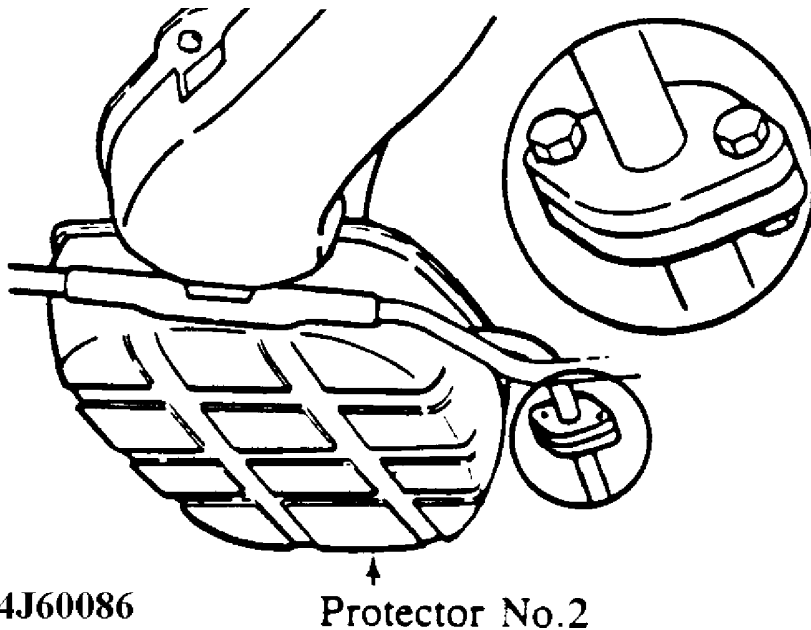

Fig. 20: Location of Protector No. 2
3. Remove the catalytic converter lower cover (protector No. 2). See Fig. 20.